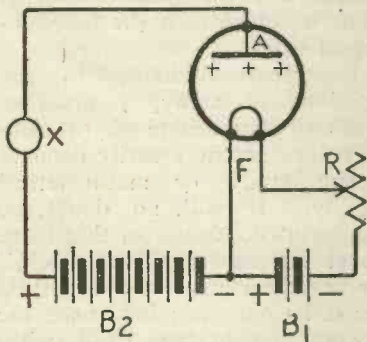

Fig. 2.—Theoretical diagram illustrating the action of a 2-electrode valve.
Fig. 2 is a theoretical diagram of the arrangement, showing the filament-heating battery B1, the variable resistance R, which limits the amount of current flowing through the filament, and consequently the temperature to which it is raised; the plate or anode A, maintained at a positive potential by means of the battery B2, to the positive side of which it is electrically connected. A low-reading ammeter or sensitive galvanometer introduced in the anode circuit at (for instance) X indicates the electron flow from filament (F) across the space to the anode (A) and round the external circuit back to the filament.